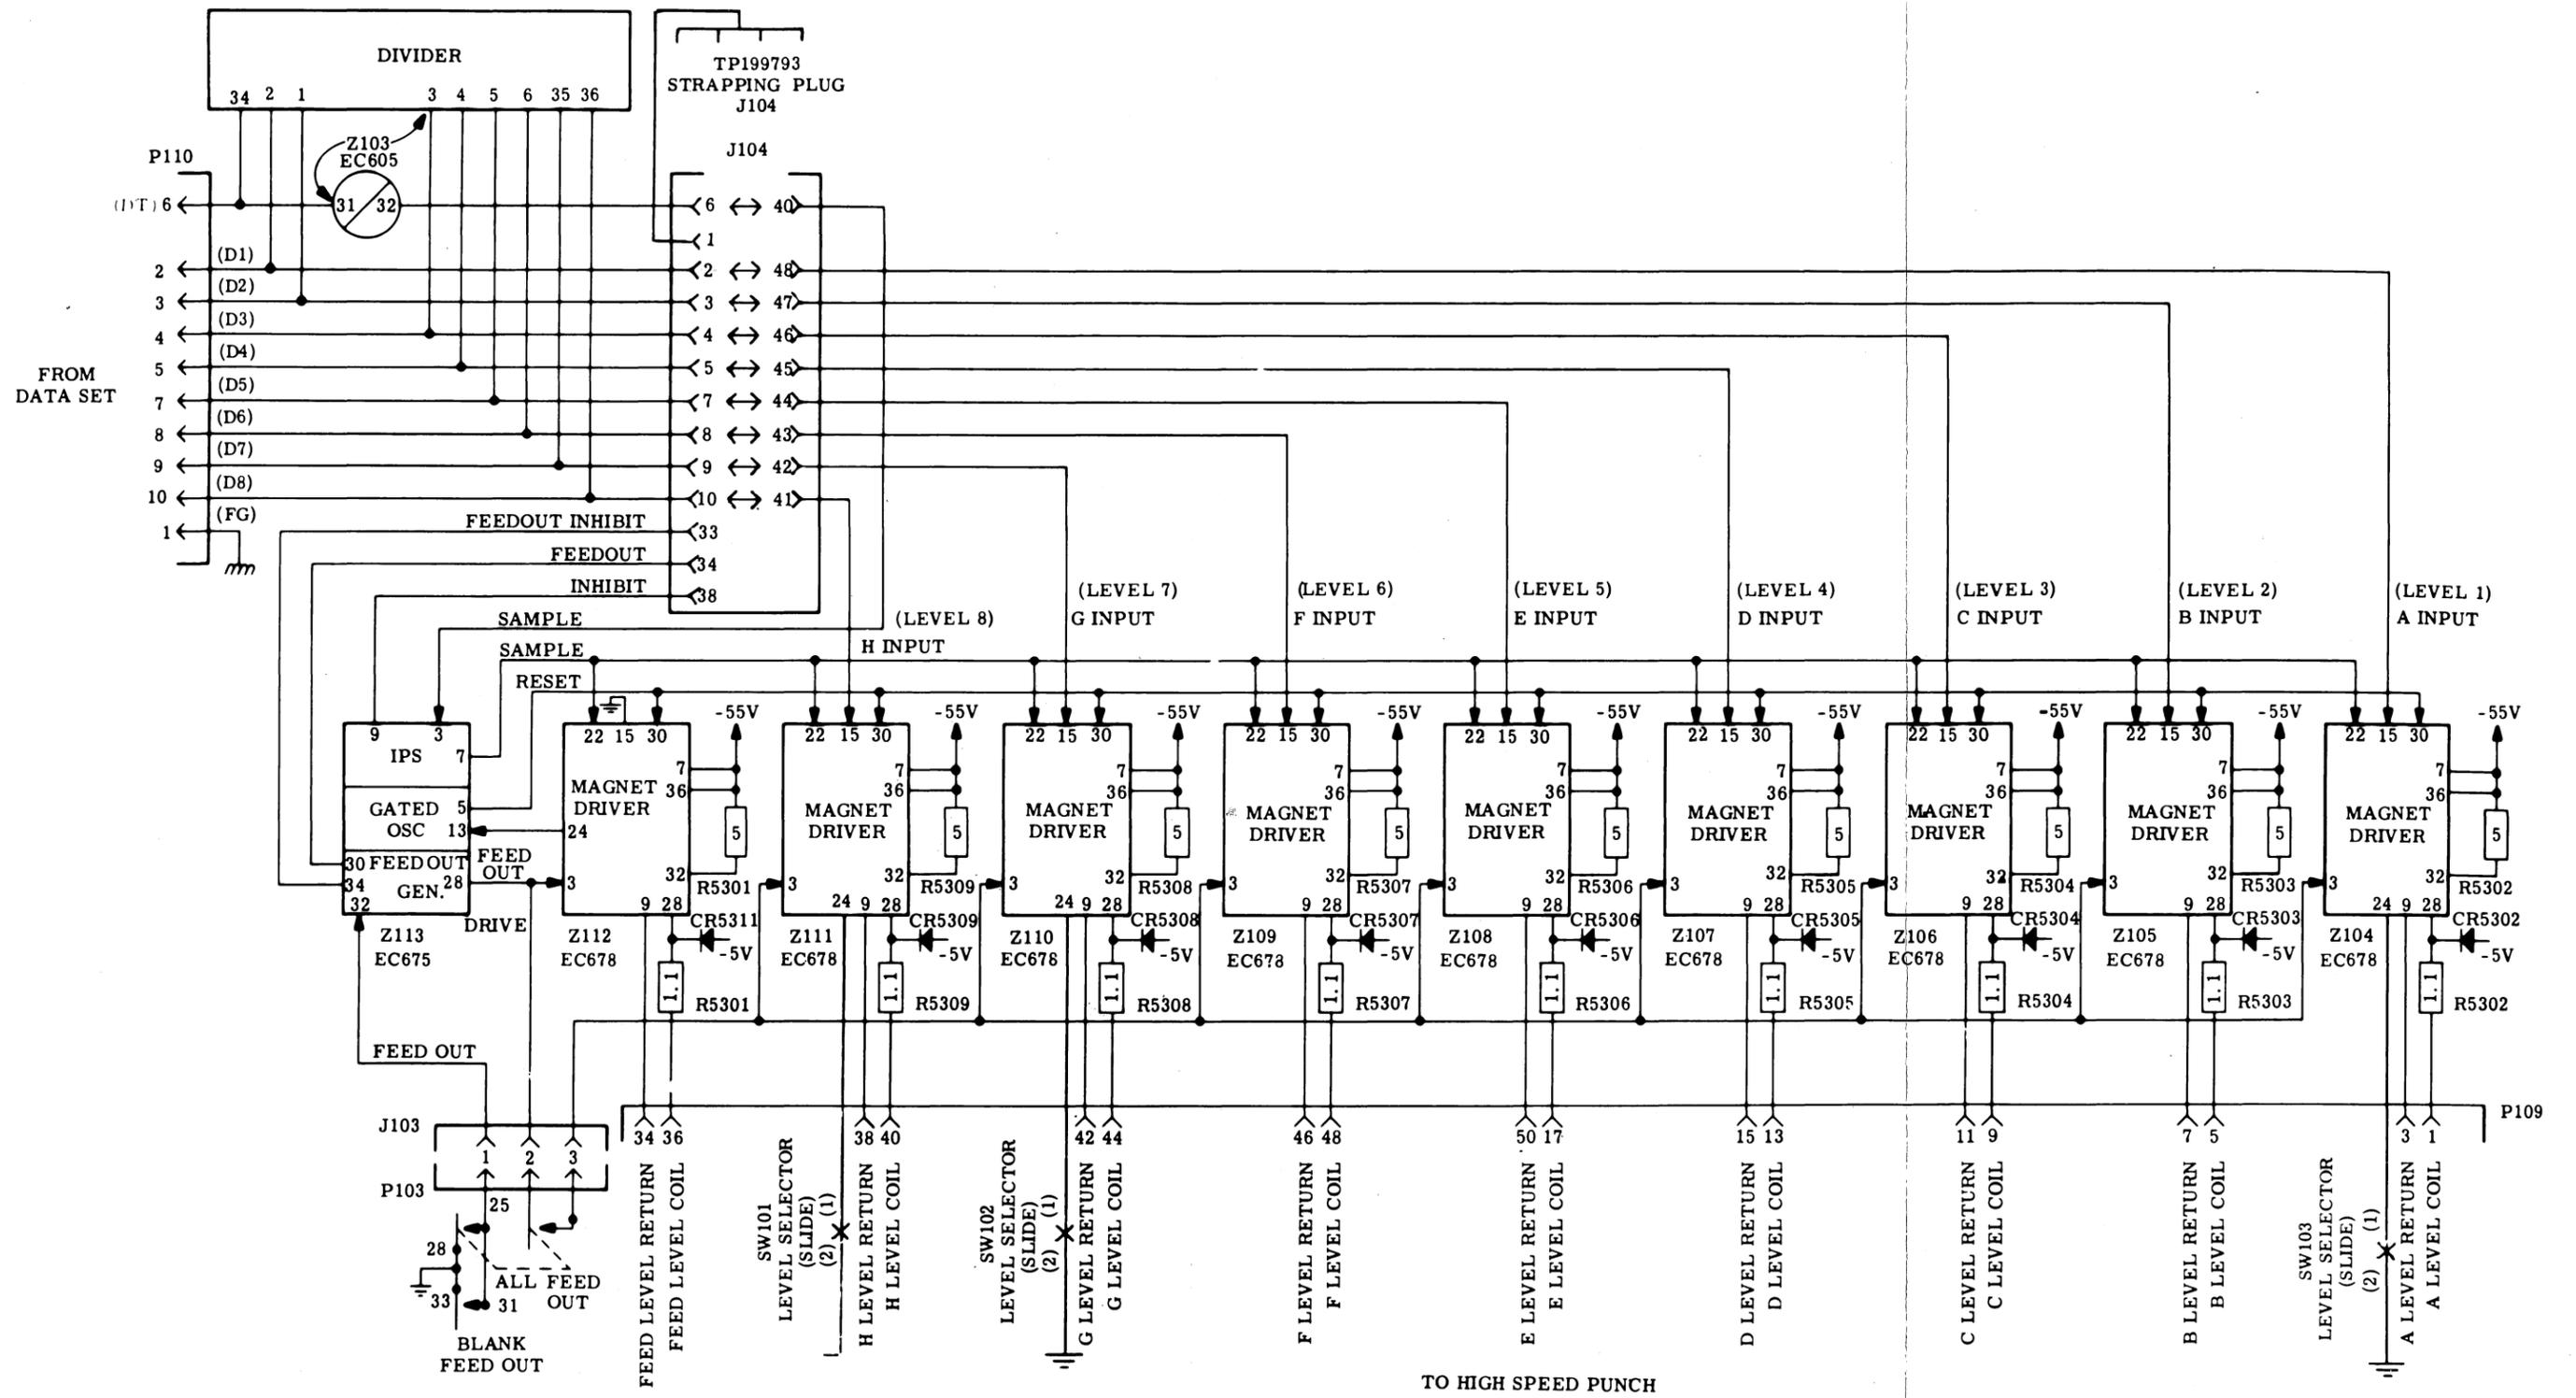

Figure 5 - Punch Driver Circuits
G. Punch Driver Circuits (Figure 5)